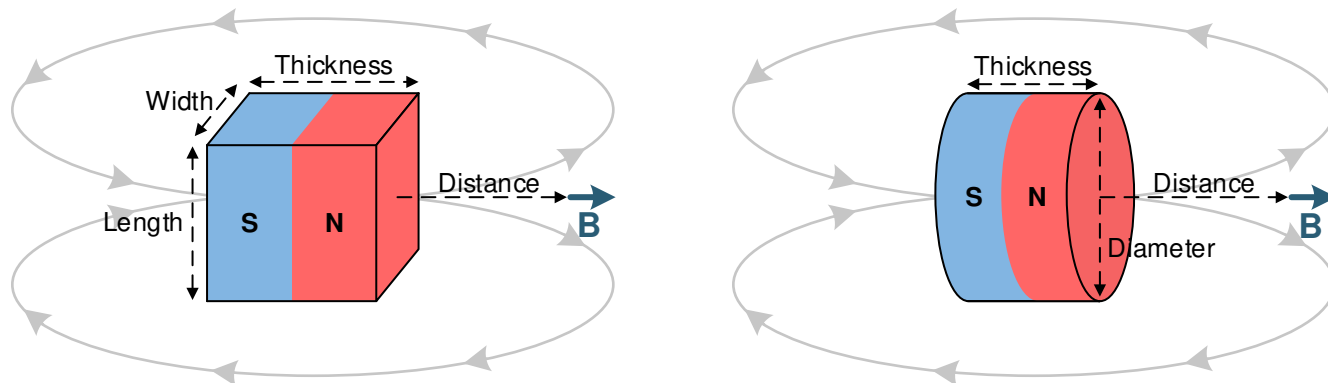

图 21. Rectangular Block and Cylinder Magnets
Magnets are made from various ferromagnetic materials that have tradeoffs in cost, drift with temperature, absolute maximum temperature ratings, remanence or residual induction (B_r), and coercivity (H_c). The B_r and the dimensions of a magnet determine the magnetic flux density (B) produced in 3-dimensional space. For simple magnet shapes, such as rectangular blocks and cylinders, there are simple equations that solve B at a given distance centered with the magnet. 图 21 shows diagrams for 公式 4 and 公式 5.
Use 公式 4 for the rectangular block shown in 图 21:
Use 公式 5 for the cylinder illustrated in 图 21: